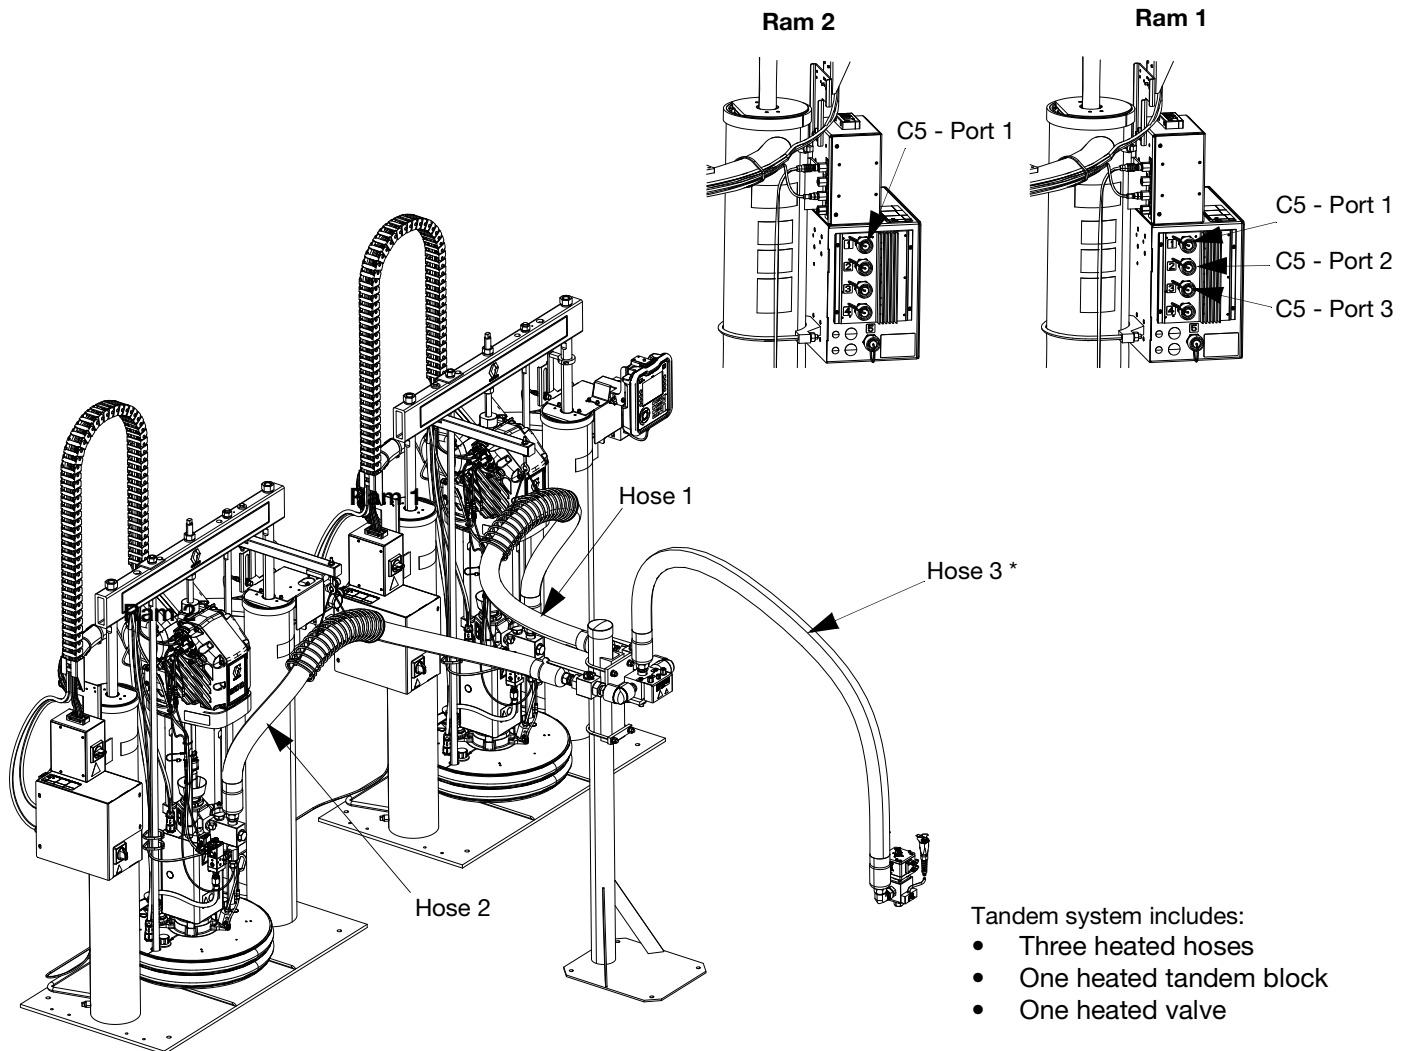

FIG. 26
- Heated Valve - Square electrical connection from hose 4 to Axial Dispense Valve (B).
- Heated Tandem Block - Square electrical connection from hose 1 or hose 2 to heated tandem block (R). See FIG. 26.